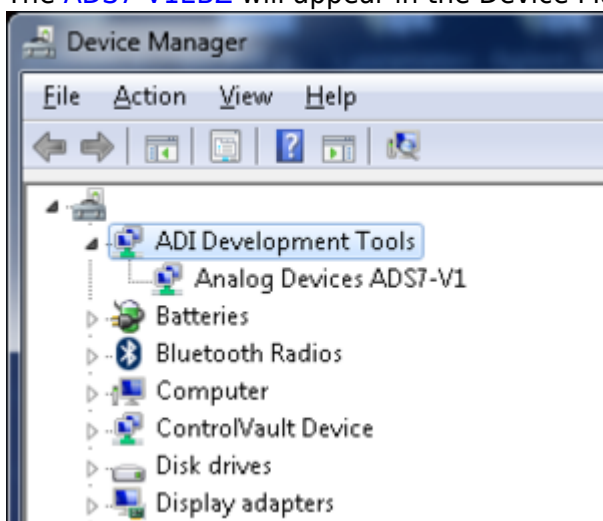

Figure 3. Device Manager showing ADS7-V1EBZ
4. The ADS7-V1EBZ will appear in the Device Manager as shown in Figure 3.